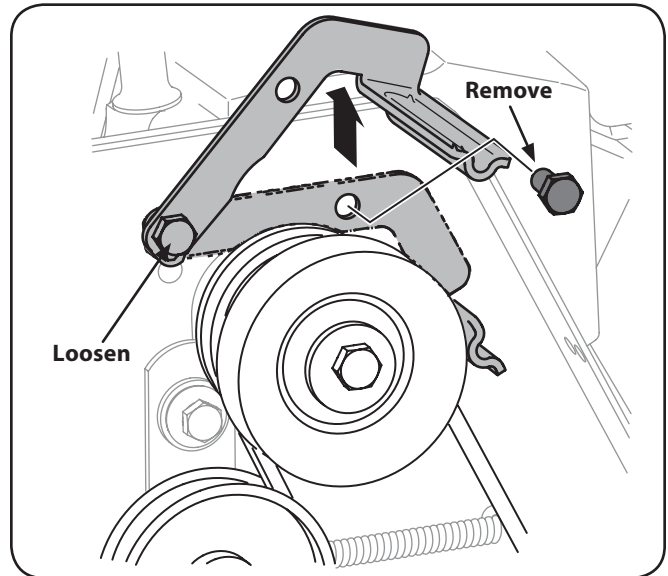

Figure 7-3
3. Loosen the bolt shown in Fig. 7-3 securing the belt keeper bracket and remove the other bolt. Push the belt keeper bracket up off the engine pulley. See Fig. 7-3.